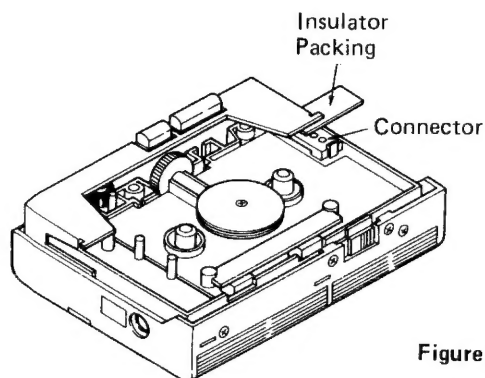

Figure 12
3. Set the cassette player and the tuner in the play mode. In this case, insert an insulator packing between the cassette holder and the tuner pack in order for the connector not to detach from the cassette player. (Figure 12)